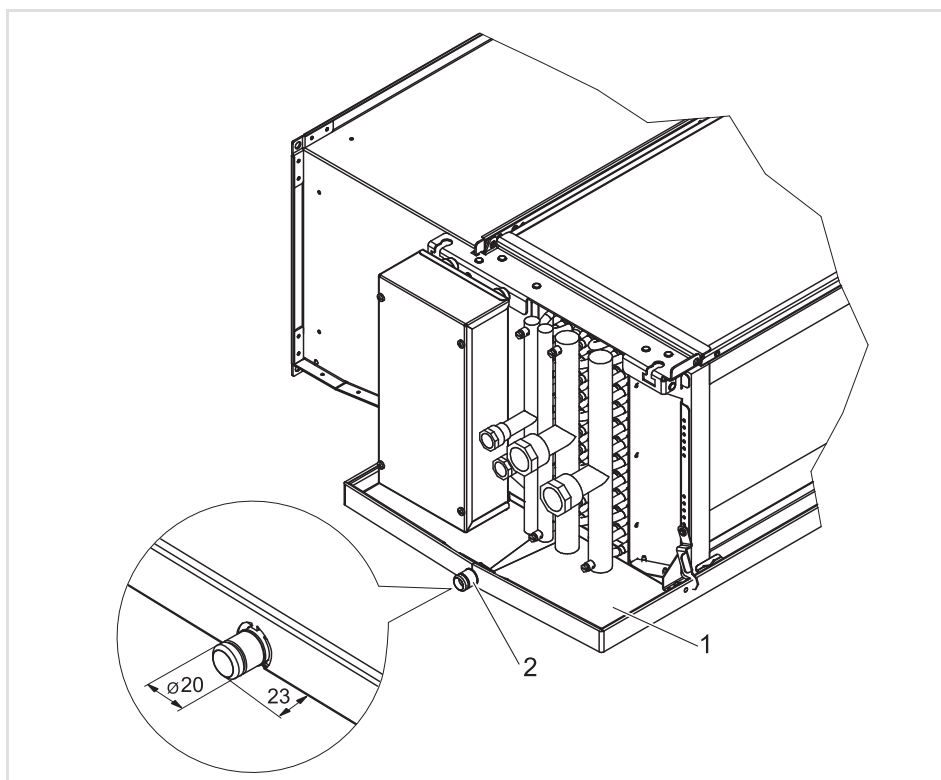

Fig. 5-19: Condensate drain
- Insert a plastic hose or a copper pipe on the provided connector of the drain pan and seal it, (refer to Fig. 5-19, Pos. 2).